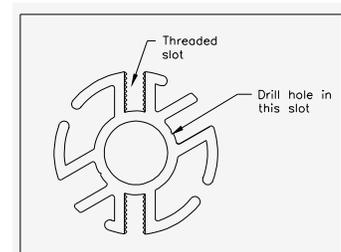

FIGURE 1
3. Drill a 3/8" hole, 1/2" from each end of the rollerbar. Drill a hole in the slot indicated, not a threaded slot (see Figure 1). Slide one end of the rollerbar over the DD motor shaft and secure with a 5/16" x 2 1/2" carriage bolt, flat washer, and lock nut.
- Slide one of the upper pivot arms, with the welded elbow, into a lower arm. Adjust the arm length until the corner rests on the desired landing point at the back of the box (Point B; figure 1 from the Pivot Installation Instructions). If the upper arm is too long, cut both upper arms to allow at least 1 foot of upper pivot arm sticking into the lower pivot arm.